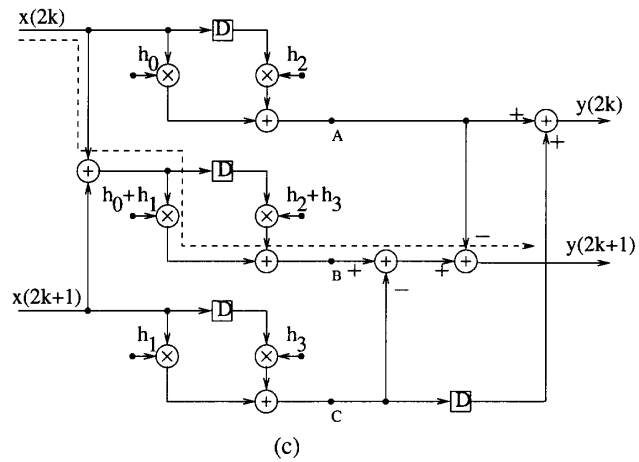

Fig. 3.18 (a) A 4-tap FIR filter. (b) A 2-parallel filter. (c) An area-efficient 2-parallel filter.
- Consider a 4-tap FIR filter shown in Fig. 3.18(a) and its 2-parallel version in 3.18(b). The parallel filter has exactly 2 copies of the original filter. The dashed line donates the critical path.